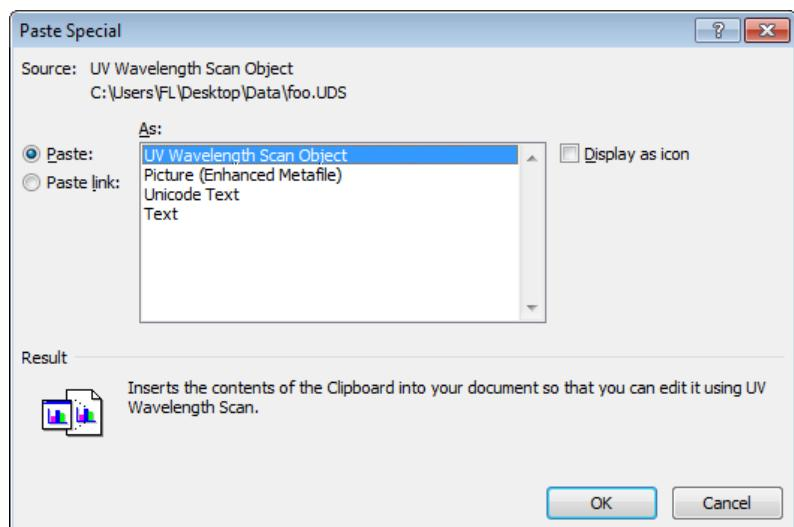

Fig. 5-45
- (1) Click the spectrum in the data processing window to make it active. The thick frame will change to blue.
- (2) Select the Copy command from the Edit menu.
- (3) Open Microsoft Excel and select “Paste Special” from its Edit menu. A dialog box as shown in Fig. 5-45 will appear. Make sure that “UV Wavelength Scan Object” is indicated in the As field.